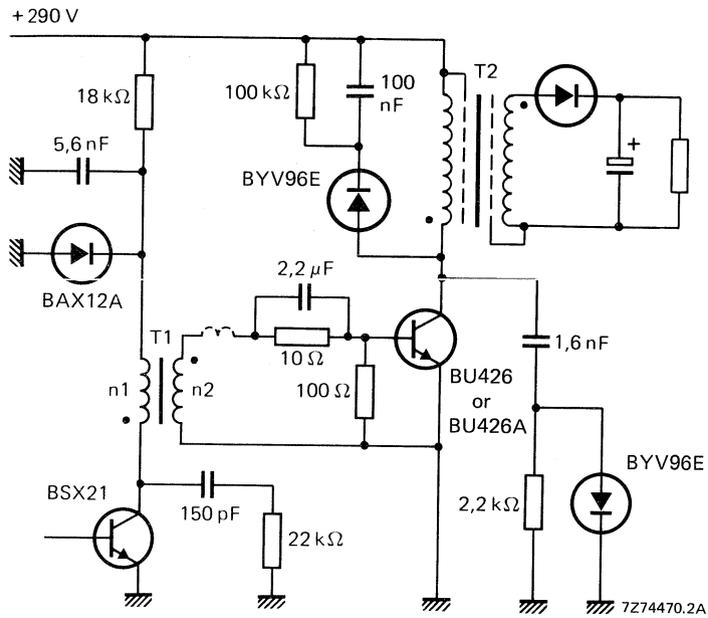

Fig. 17 Practical output circuit of a flyback SMPS of BU426 or BU426A.
All these variables influence the collector dissipation, so that a simple presentation of the design information is only possible if the information is restricted to the main application area of the relevant transistor type. Therefore, as the BU426 or BU426A will mainly be used in flyback converters and the BU433 in forward SMPS, the information of Figs 17 up to 22 is based on these applications:
To ensure thermal stability minimum value of T_{amb} in this equation is 40 °C. As indicated, the BU433 will mainly be used in (non-isolated) forward converters, where the turn-off losses are limited by the maximum collector emitter voltage (\approx 300-350 V). The rate-of-rise of the voltage during turn-off must be below 1000 V/ μ s. Application of this transistor in low-power flyback converters is also possible, provided that the rate-of-rise is limited to 500 V/ μ s. For the BU426(A) a rate-of-rise of 1000 V/ μ s is permissible. Practical SMPS output circuits for an output power in the order of 180 W are given in Figs 17 and 20. At a collector current of 2,5 A and a base current of 0,25 A in these circuits the following turn-off times can be expected.